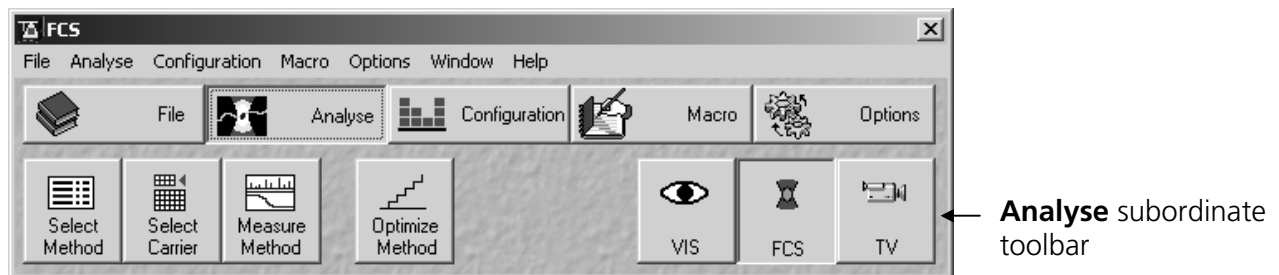

Fig. 3-28 Analyse menu
(1) Opening / Closing the Carrier Position window
- Click on the **Select Carrier** button in the **Analyse** subordinate toolbar of the **Main** menu (Fig. 3-28).
(1) Opening / Closing the Method Measurement ... window
- Click on the **Measure Method** button in the **Analyse** subordinate toolbar of the **Main** menu (Fig. 3-28).